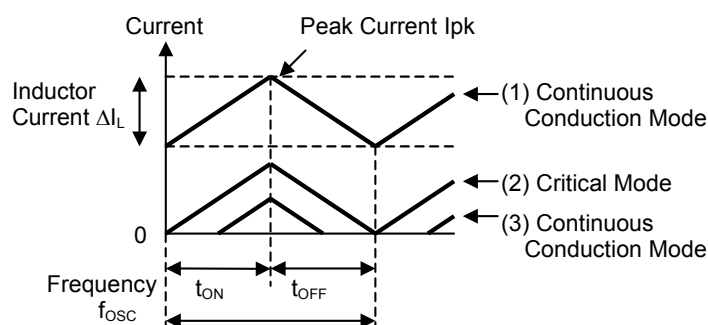

Fig. 4. Inductor Current State Transition
Ideally, the value of L is set so that inductance current is in continuous conduction mode. However, as the load current decreases, the current waveform changes from (1) CCM: Continuous Conduction Mode → (2) Critical Mode → (3) DCM: Discontinuous Conduction Mode (Fig. 4.).